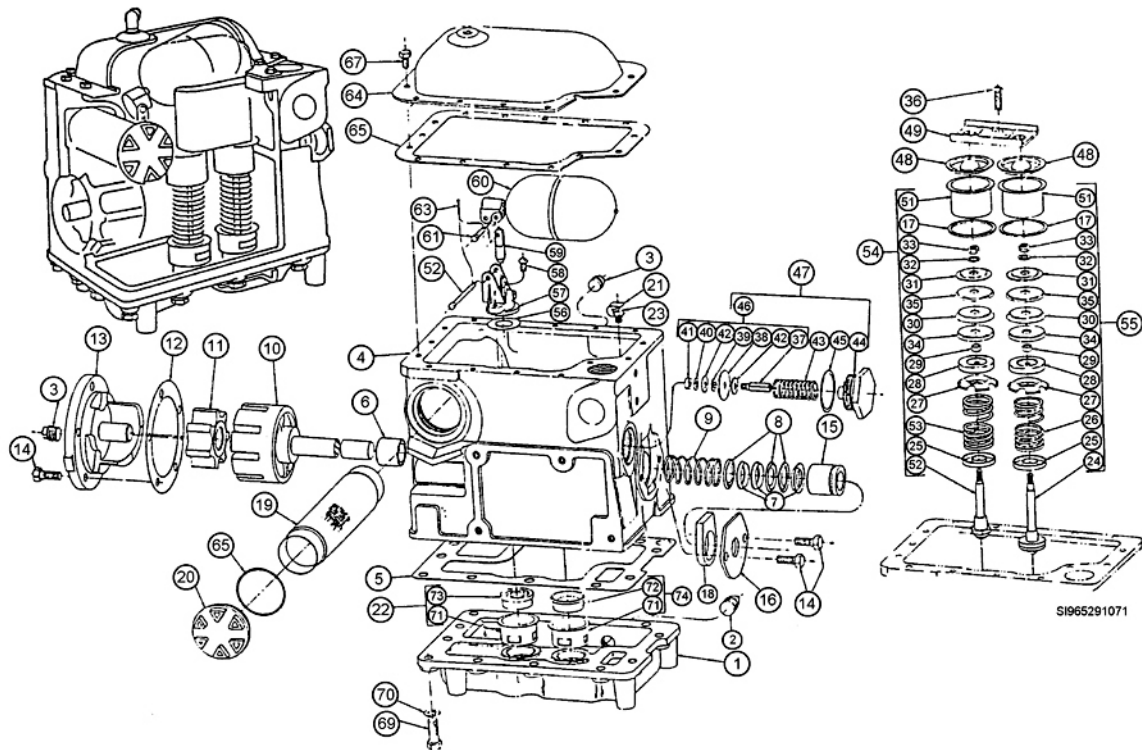

Figure 5-7. Internal gear pump and air eliminator.
A new internal gear pump will prime itself, unless it is connected to an extremely long suction line with an excessive vertical lift (over 12 feet), provided that the suction line is otherwise correctly installed. Refer to figure 5-7 for the following discussion.
The internal gear pump is packed with special “V” packing. Be sure that the proper size and kind of packing are used whenever you repack the stuffing box. The packing is shown as item 7 in figure 5-7. You can easily replace them by removing the pump pulley and removing cap screw (14). This allows the removal of the retainer plate (16), the bearing (15), and the oil well felt (18). The packing glands of this unit are spring-loaded (9) to keep the proper tension on the packing at all times. For this reason, when the bearing (15) is removed, the packing will be forced forward by the spring (9), provided the unit has been properly lubricated as recommended by the manufacturer. When old packing rings are removed, be sure to replace them with the same number of new ones. This is important in order to prevent leaks in the stuffing box.
The purpose of the air eliminator is to remove the air and vapors from the fuel before they reach the measuring unit. This device consists of two chambers—the supply chamber and the float chamber. Refer back to figure 5-7 for numbered items and figure 5-8 for system operation as you read the following material.